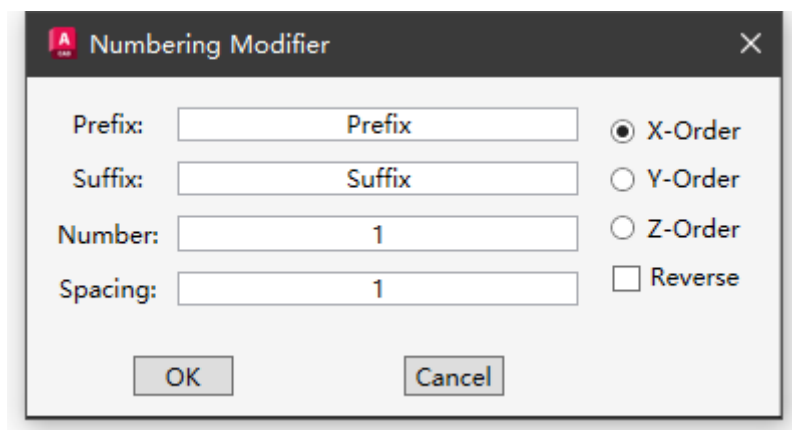

Figure 3.3 Input dialog in command “NumStrs”
- The dialog (Figure 3.3) accepts only integer in *Number* and *Spacing*;